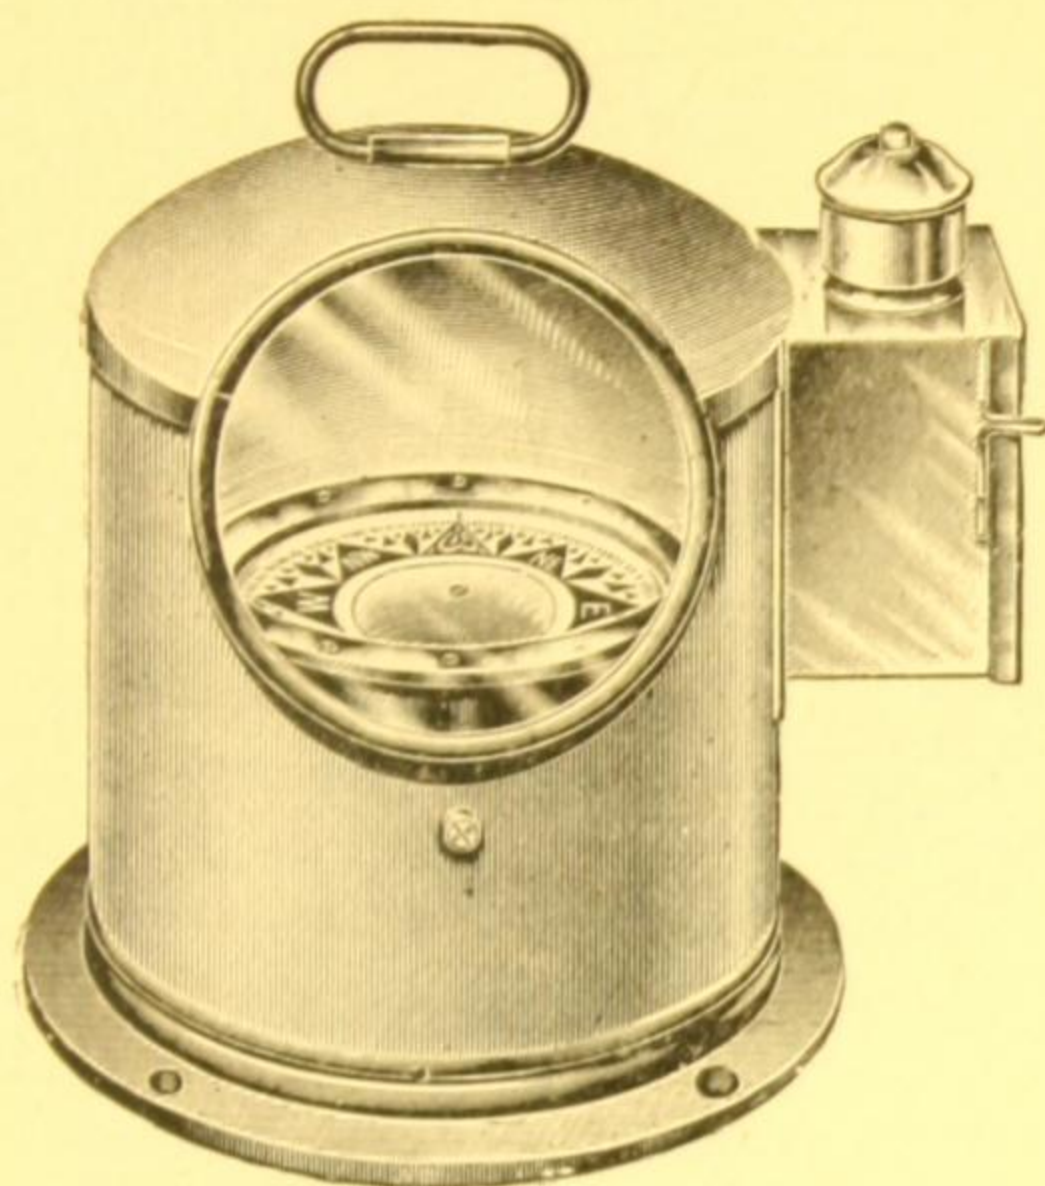

Fig. 98.
**Binnacle Compass** on gimbal rings with dial floating in liquid. Bright brass binnacle and lamp. Fig. 98.